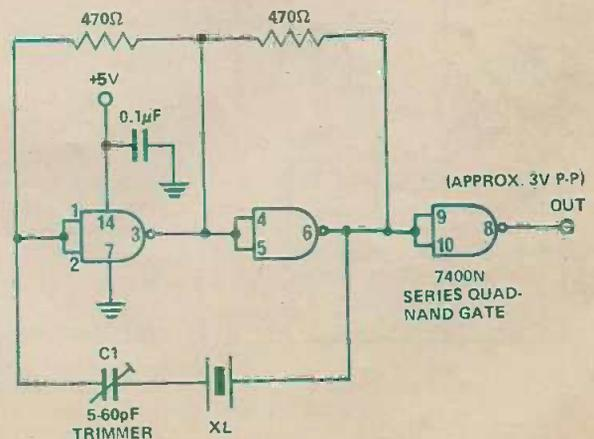

Fig. 4. Reliable TTL crystal oscillator.
TTL IC can be used in crystal oscillator circuits but many published circuits have poor starting performance or suffer from non-repeatability owing to wide parameter spreads in IC's. The circuit in Fig. 4 is by K1PLP from QST, Feb. 1974 (5) and is after Weggeman (6). This circuit has been tried by the writer over the range 1 MHz to 18 MHz and can be recommended. It is a series mode oscillator and suits AT-cut crystals. The output is about 3 volts peak to peak, square wave up to about 5 MHz beyond which it becomes